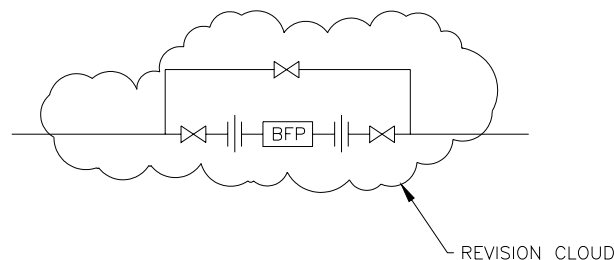

Figure 103-1
- F. Use the AutoCAD “cloud” (or other similar graphic symbol) command for revisions (layer-cloud, color- white, pen weight 0.35 mm, line type-continuous) to completely encircle the revised drawing elements. On subsequent revisions, delete the previous revision clouds. A revision cloud is illustrated in Figure 103-1.
- H. Indicate the current revision number in the “NO.” column of the revision block and “REV.” block of the drawing title block (Figure 103-1).